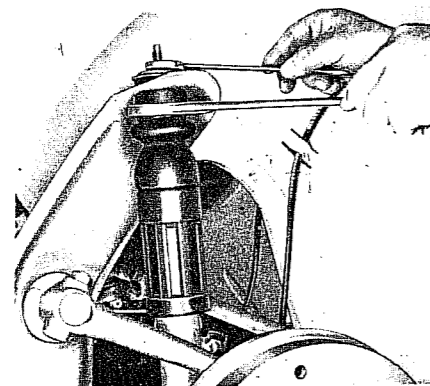

Fig. H.6. Disconnecting the shock absorber upper mounting.
2. Loosen the small nut at the upper attachment to the axle side plate. If necessary, slide down the rubber buffer and the protective tube so that you can grip the pin. If the nut still cannot be removed, hold the pin tightly and use a spanner on the flats of the shock absorber shaft to unwind the shaft from the pin (Fig. H 6).